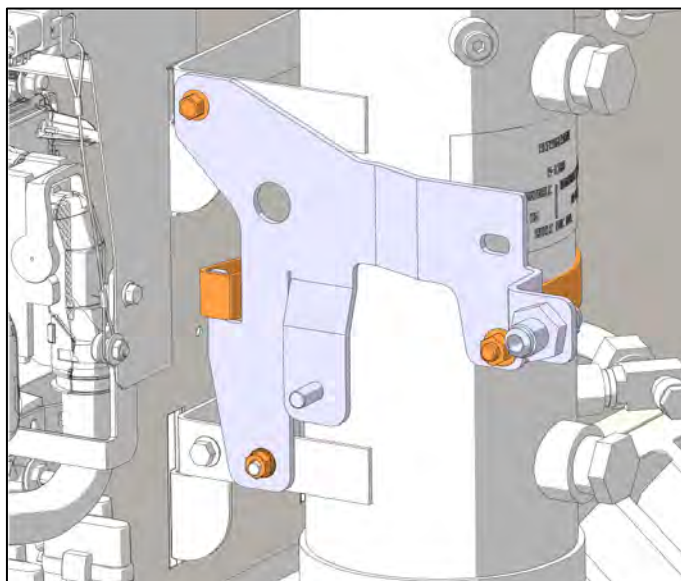

Figure 7: Fuel Pro mounting bracket
10. On the fuel pro unit, remove the front mounting screw and nut. (Figure 7)
11. Remove the rear mounting nut. (Figure 7)